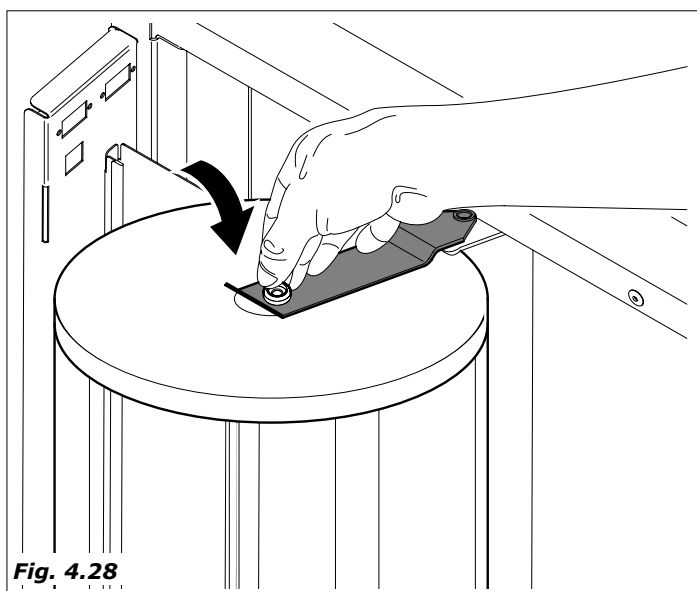

Fig. 4.28
- Put the cup turret's lid back on and snap in the spring band (Fig. 4.28).